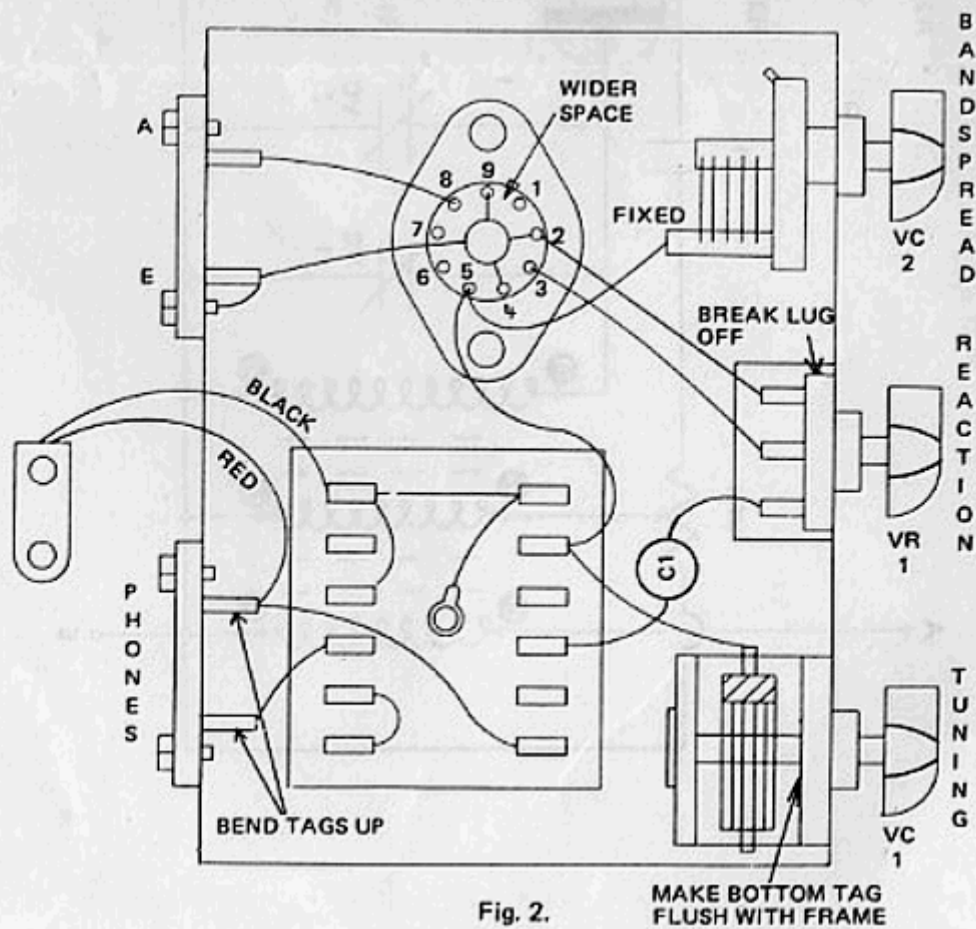

Fig. 2.
1. Mount the coil holder on the underside of the chassis using two bolts and nuts. Note the position of the wider space between pins 1 and 9. See Fig. 2.
3. Mount the tuning capacitor (using the two short counter-sunk screws) the 5 K ohm potentiometer and the bandspread capacitor in the positions indicated in Fig. 2. The two short screws will pass through the dial card. The bottom lug on the tuning capacitor should be flattened and the shake-proof washer on the potentiometer should be on the inside of chassis.
7. Secure the tag board to the chassis through the hole provided with a nut on the top of the chassis. See that it is "square" with the chassis. Connect C1, run wires from the tag board and connect the red and black leads of the battery "snap" connector as shown in Fig. 2. The bandspread capacitor should have a wire connected from one of its prongs on the "fixed" vanes at the back to pin No. 5 of the coil holder.